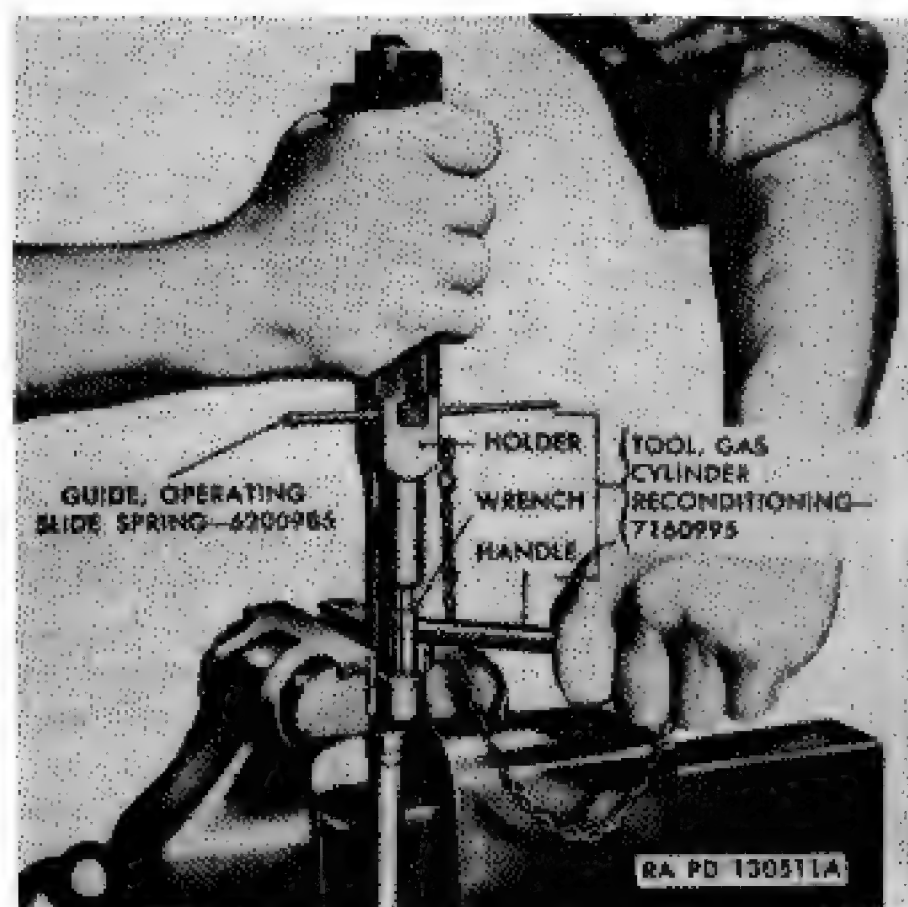

Figure 77. Removing piston nut from gas cylinder.
- (1) The gas piston and piston nut are the only removable parts of the gas cylinder group. To remove the piston, clamp the barrel firmly in a vise with protected jaws, and using gas piston nut removing tool M5 5621065 or gas cylinder reconditioning tool 7160995 (with wrench component), unscrew the piston nut counterclockwise from gas cylinder (Fig. 77). Take care not to bur or twist prongs on nut when